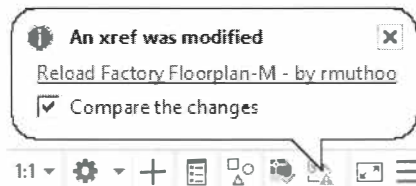

Figure 11-17
- When a drawing which is referenced in a drawing is changed, a alert balloon is displayed in the Status Bar, as shown in Figure 11-17. Select the link in the balloon to reload the reference and also to compare the changes. This message also displays when someone else changes a reference while you have the host file open.